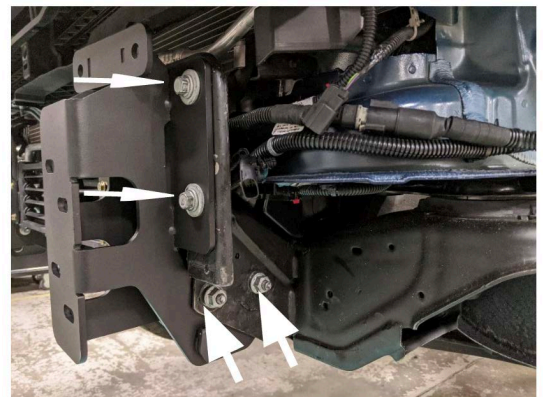

Figure 19.
17. Install the two mounting brackets (22225 and 22226) using a 15mm and 18mm socket wrench and the OEM tow hook bolts and bracket bolts removed during steps 12-13. Figure 19.